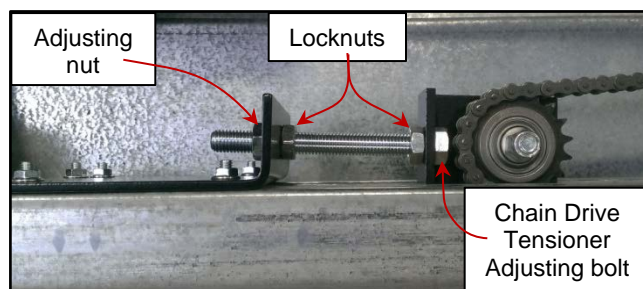

Figure 34
3. Initially the tension of the chain is set at the factory. Tighten or loosen the chain drive by adjusting the bolt in the return idler-tensioner assembly. Typically this needs to be done about every 250,000 cycles, but this will vary with the door size, environmental conditions, etc. The tensioner should have a  $\frac{3}{4}$ " gap between the housing and bottom of the "banana" chain glide. (See Figures 34 and 35)
4. Once the chain tension is set, verify that the return idler-tensioner assembly is securely bolted in place. (See Figure 34)